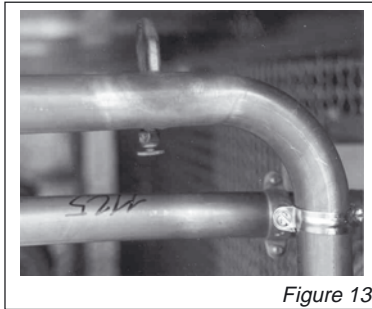

Figure 13
- Fill the hydraulic system and bleed the battery using the air vent (figure 13).